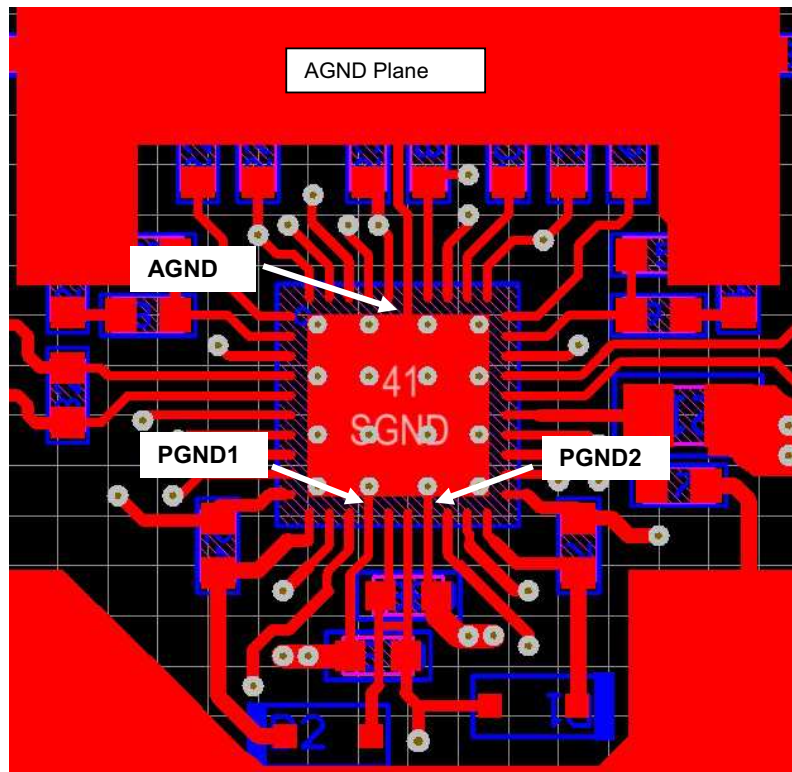

Figure 43. AGND and PGND Connections
- Make the ground connections to the LM5140-Q1 controller as shown in Figure 43. Create a power grounds directly connected to all high-power components and an analog ground plane for sensitive analog components. The analog ground plane (AGND) and power ground plane (PGND1, and PGND2) must be connected at a single point directly under the IC (at the die attach pad or DAP).